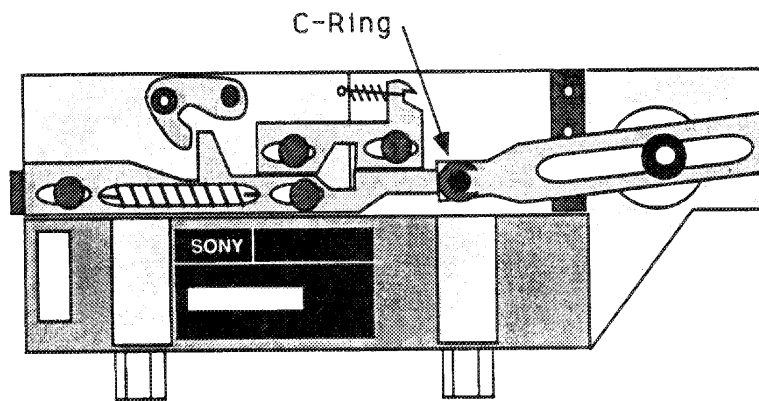

Figure 18 C-ring removal.
5. Use a small 1/8-inch slotted screwdriver to remove the C-ring shown in Figure 18.